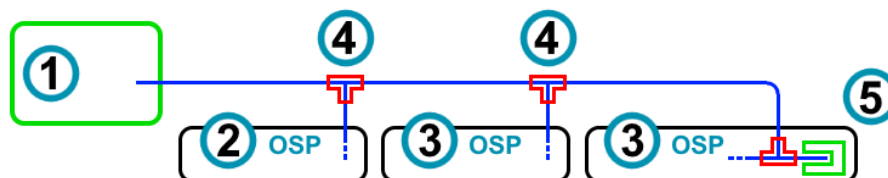
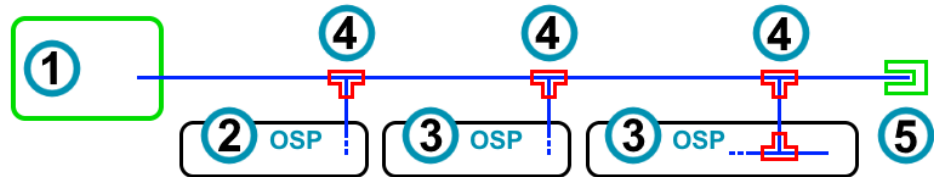

Figure 6-59: Schematic trigger setup with internal 50-ohms termination in the last switch unit (3)
Figure 6-60: Schematic trigger setup with external 50-ohms termination (5) after the last trigger input
- Terminate the trigger line with 50 ohms at one switch unit. To do so, terminate it either at the primary switch unit (in the absence of secondary switch units) or typically at the last secondary switch unit (if available). Termination can be **internal** inside a switch unit as in Figure 6-59 or **external** as in Figure 6-60.
If the signal cable is not externally terminated (as in Figure 6-59), use internal termination in **one** switch unit. To do so, set "Termination" to "50 Ohm" in **this** switch unit and to "High Impedance" in **all other** switch units.
If the external 50-ohms termination (labeled 5 in Figure 6-60) is present, set "Termination" to "High Impedance" in **all** switch units.